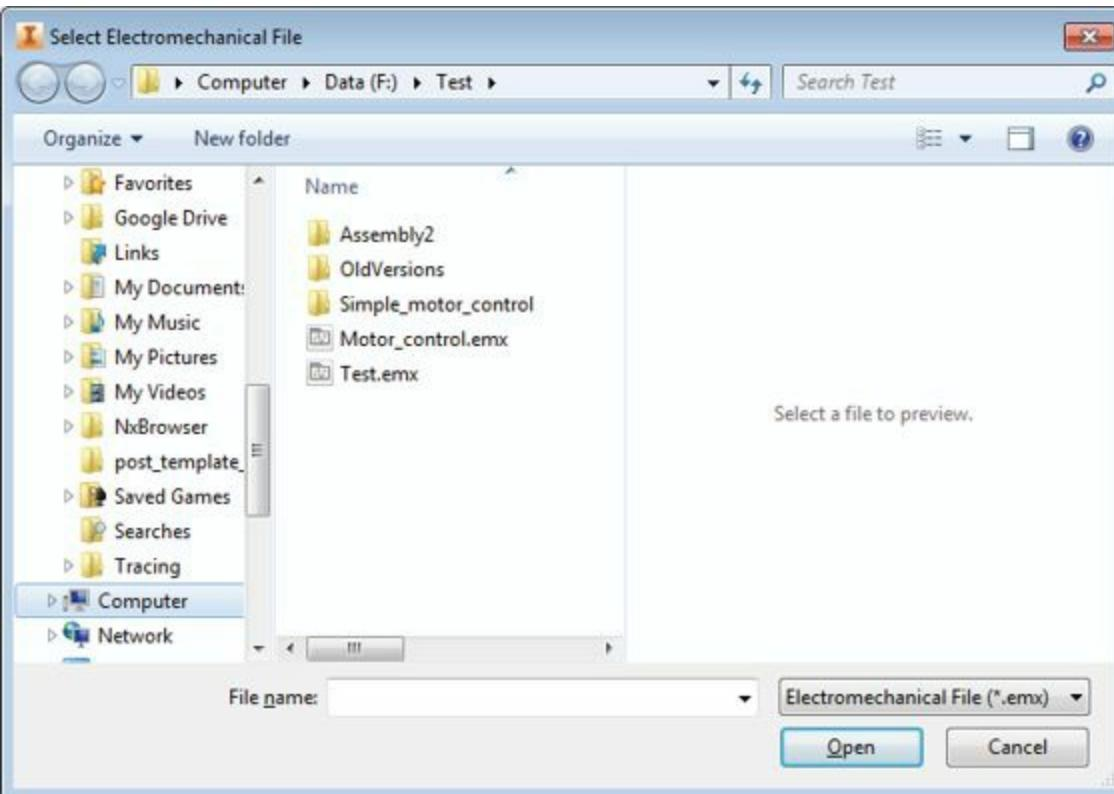

Figure-11. Select Electromechanical Link File dialog box
- Click on the **Link to an electromechanical file** button from the dialog box. The **Select Electromechanical File** dialog box will be displayed as shown in Figure-11.